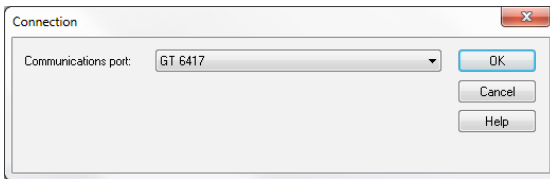

Figure 7-8
**NOTE:** If a connection has not been previously established, the Communication dialog box will appear (see Figure 7-8).